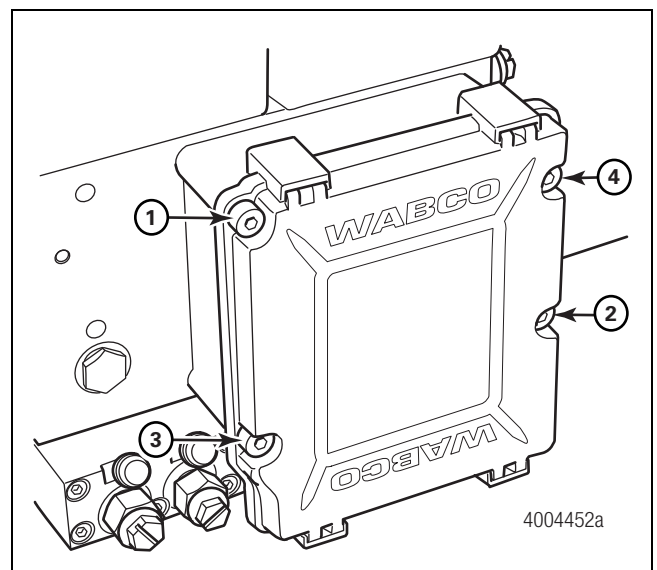

Figure 4.20
6. Use a 4 mm Allen wrench to loosen and remove the four mounting screws that attach the ECU module to the HCU. Remove the screws in the sequence shown. Figure 4.20.